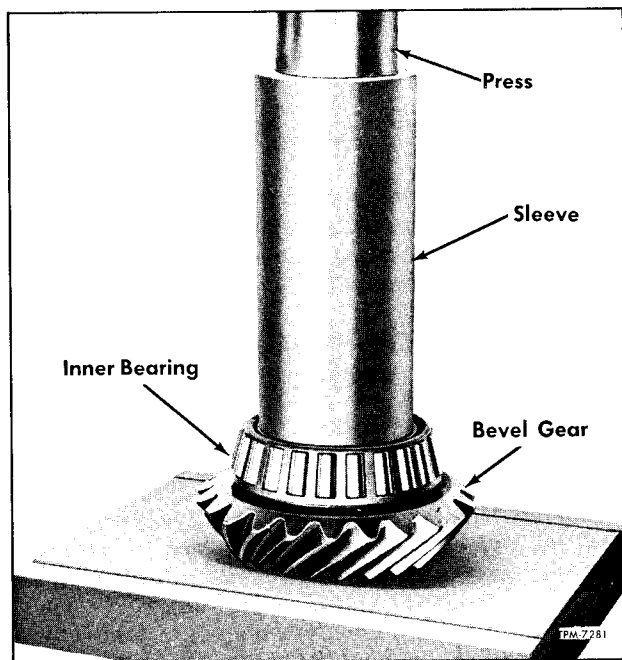
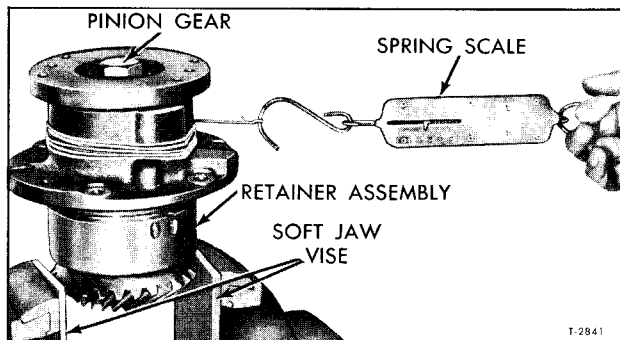
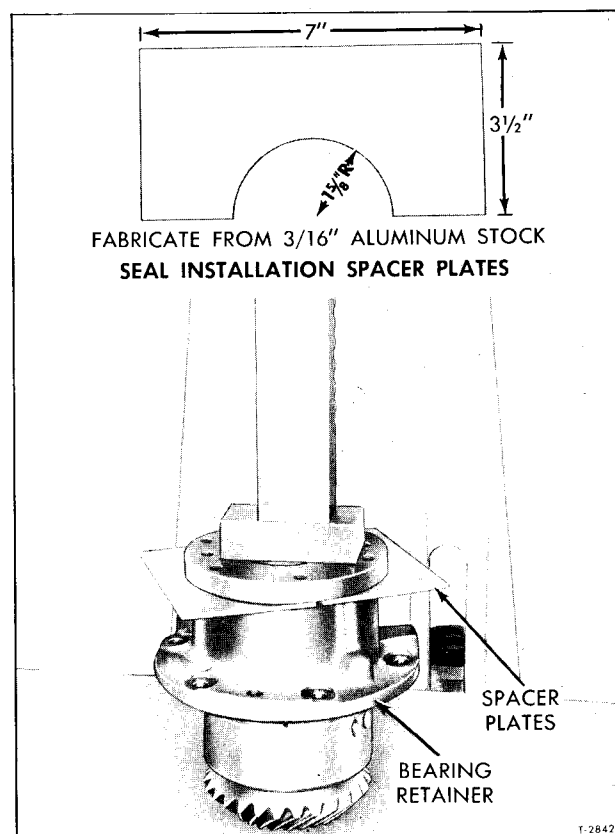

Figure 68—Installing Bevel or Pinion Gear Inner Bearing
Figure 71—Checking Pinion Gear Adjustment
Figure 72—Using Spacer Plates To Install Seal
hardwood block and seat bearing race firmly at shoulder (fig. 68).
1. If pinion gear inner bearing cone (18) was removed from gear at disassembly, install bearing cone using a suitable sleeve and arbor press. Support gear on soft metal or hardwood block and seat race firmly at shoulder (fig. 68).
2. Install spacer (24) on shaft of pinion gear.
3. Inspect counterbores in bearing retainer (35) which must be clean.
4. If removed at disassembly, use a suitable driver and arbor press and install bearing cups (19) and (33) in retainer.
6. Install outer bearing (32) on fan drive hub (30) in arbor press. Apply small amount of grease to inside diameter of bearing spacer (25) and install on fan drive hub.
7. Making sure keys (29) are installed in shaft, press fan drive hub into bearing retainer. Install washer (28), lock plate (27), and bolt (26).
a. Tighten bolt (26) to 200-225 ft. lbs. torque.
b. Wrap a heavy cord around bearing retainer and attach a spring scale as shown in figure 71. Rotate bearing retainer by pulling on spring scale. Correct bearing preload will require a 10 to 20 pound pull to rotate retainer.
c. If necessary, replace bearing adjustment spacer (25) with another size. Select smaller spacer to increase preload, larger size to decrease preload. Spacers of various sizes are available in thicknesses shown in chart on next page.
9. When correct preload is obtained, remove fan drive hub assembly and insert seal (31) in bearing retainer (35). Coat outside of seal with sealing compound before installing.
10. Using spacer plates as shown in figure 72, press fan drive hub assembly into bearing retainer. Remove spacer plates by knocking out with hammer. Plates can be improvised locally according to dimensions called out in figure 72.